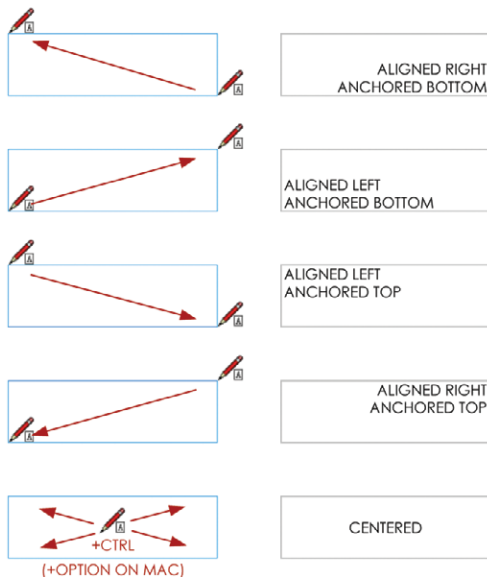

Figure 12.15 When you use the Text tool, the direction in which you click and drag assigns the justification and anchoring of the Text window.
1. Using the Text tool, click and drag to start the Text window (Figure 12.15).